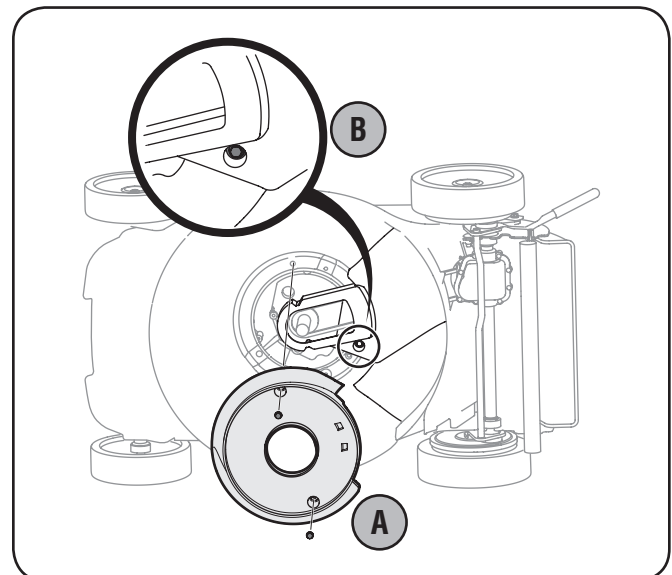

Figure 7-2
- a. Remove the self-tapping screws that secures the engine baffle to the deck. See Fig. 7-2. Remove engine baffle.
- b. Loosen self-tapping screw that secures deck baffle to the deck. See Fig. 7-2.